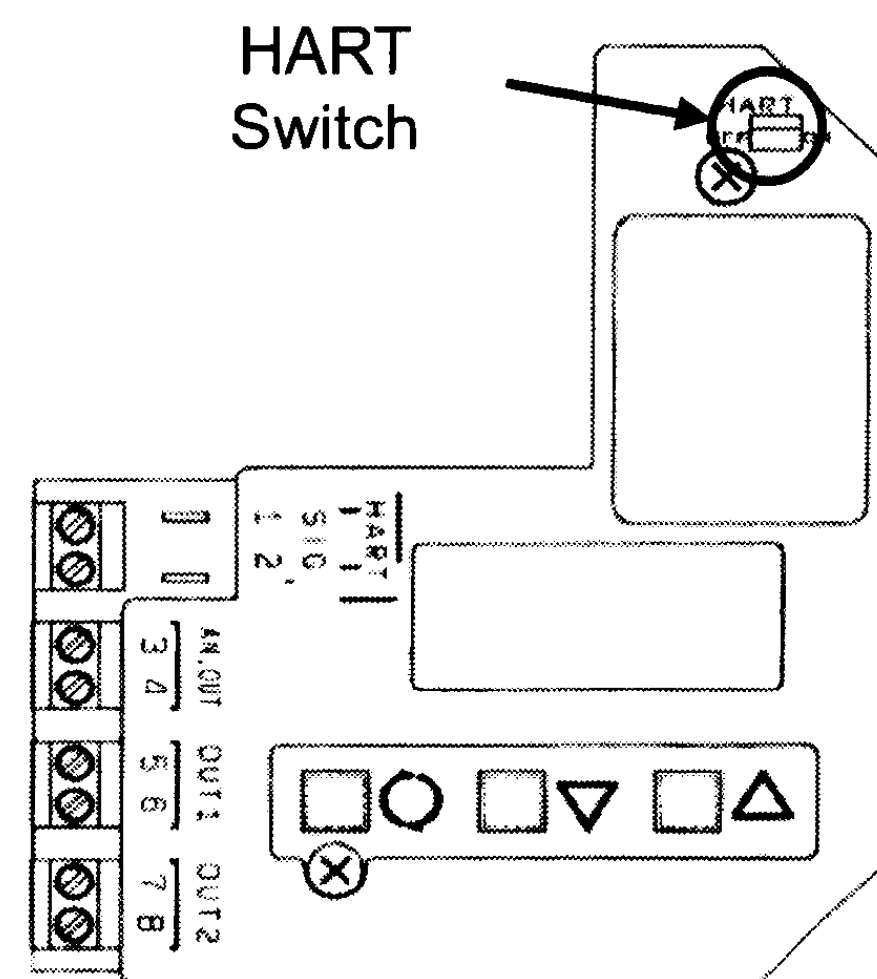

Fig. 5
*1: Refer fig.5 of “■Switching HART Communication Function” for details.